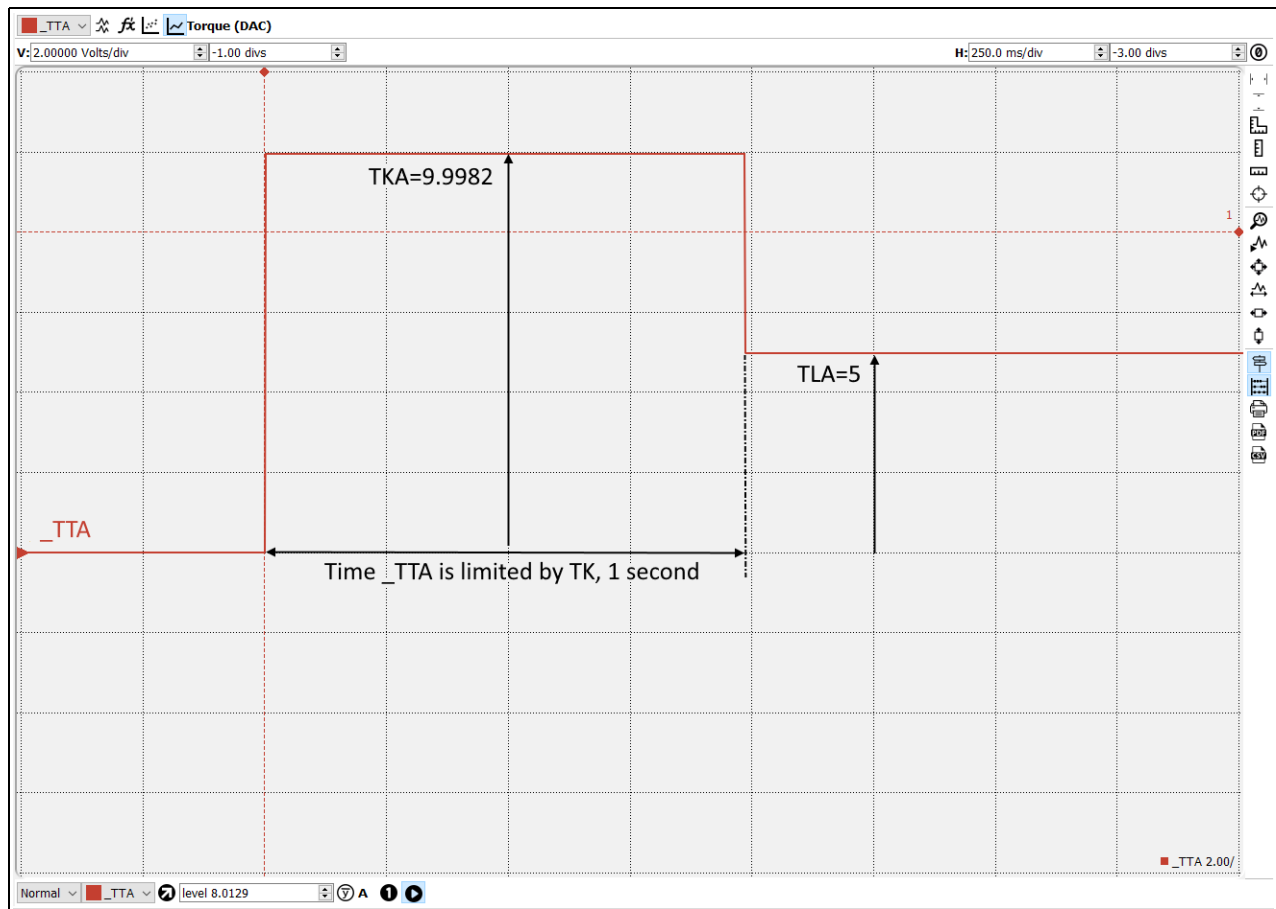

Figure A1.2: Peak Current Operation
The peak and continuous torque limits can be set through the TK and TL commands respectively. The controller will command the torque signal (TT) up to the value specified by TK for a maximum of one second, as shown in Figure A1.2. It will then limit the torque to the value specified by TL. The more time the controller commands the torque below TL, the longer it will command it to TK when necessary. The DMC code example below exhibits the behavior of TT being limited by TL and TK, as shown in Figure A1.2.